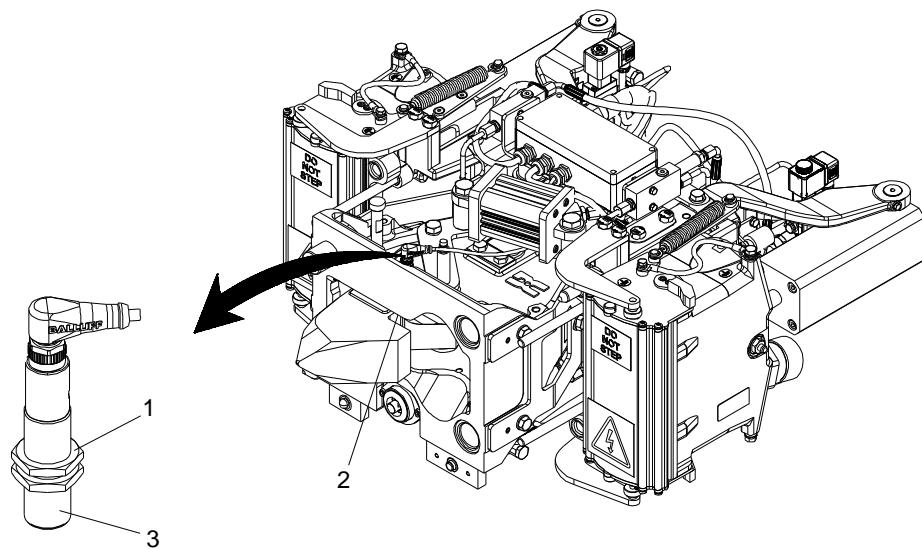

Figure 7-41: Adjustment of Inductive Sensor (S8)
1. Loosen the two nuts (1). See Figure 7-41.
2. Adjust the sensor by turning it. The bottom surface of the sensor head (3) shall align with the inner casing wall (2) of the coupler head.
3. Secure the sensor with the two nuts (1).